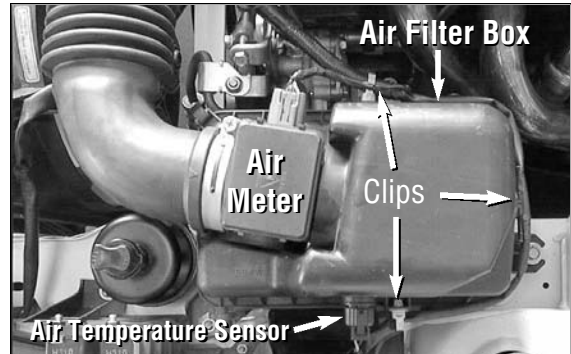

Figure 1
1. Loosen the hose clamp and disconnect the plastic hose from the outlet of the air meter. Unplug the electrical connectors from the air temperature sensor and the air meter (do not attempt to unscrew the air meter connector or permanent damage may occur). Disconnect the three (3) wire harness support clips from the air filter box by using a pair of needle nose pliers. Remove the air filter box from the chassis. (See Figure 1)